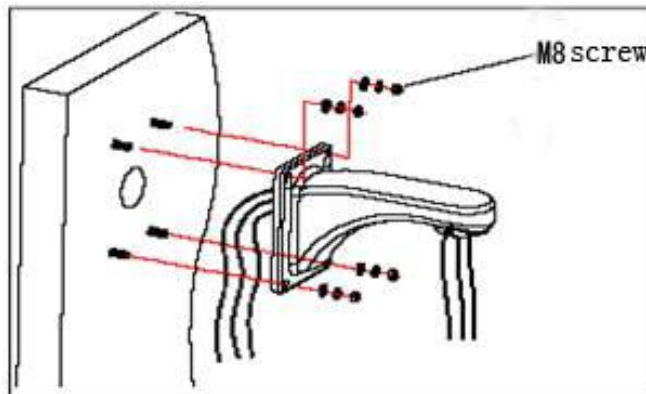

Fig 2.2
b. As shown in fig 2.2, fix the wall hanging bracket to the wall with the fixings provided (if these are suitable for the application – if not, you will need to source your own).